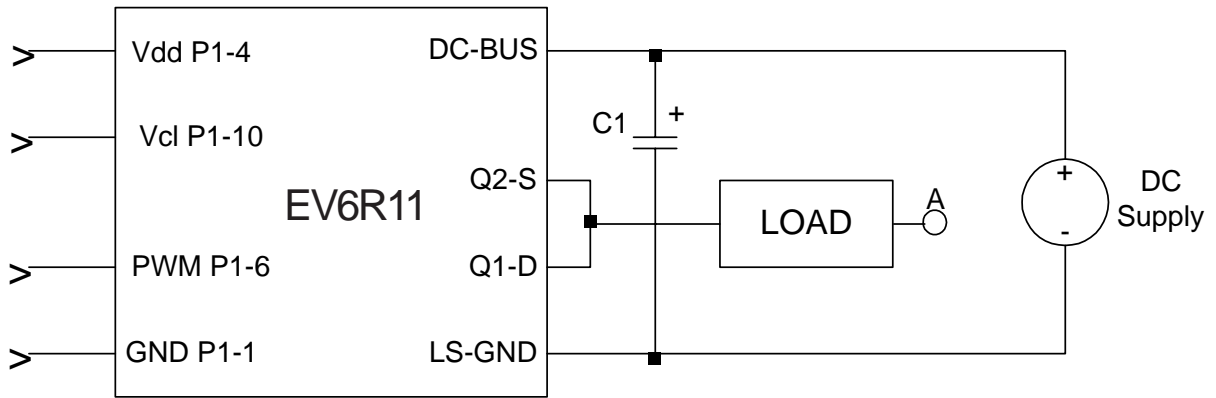

Figure 4: Evaluation Board & Load Termination
**c)** Be careful with ground connections. Avoid ground loops. In general, connect the grounds as shown in Figure 4 to minimize ground bounce effects. This is particularly important when three "High/Low side driver design kits" are connected together with a single IXDP630
**d)** Before using the PCB at full power or attempting a short circuit test, make sure that a proper high voltage electrolytic capacitor is connected between DC BUS and GND as shown in Figure 4. The leads to this capacitor should be as short as possible to minimize any stray inductance.
**e)** Figure 4 shows the load terminated at point A. This point could be connected to a number of places depending on the application. For example: Connection to ground will test the high side device. Connection to DC BUS will test the low side device. It could also be connected to the center point of a capacitive divider (UPS systems).